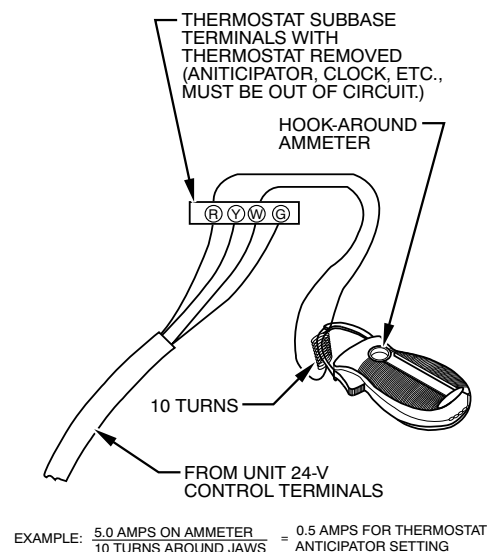

Fig. 64 – Amp. Draw Check with Ammeter
The high-speed or single-speed cooling airflow is adjusted by turning Setup switches SW2-1, SW2-2 and SW2-3 either ON or OFF. Select the required airflow from Table 5. Table is based upon 350 CFM per ton. For other CFM per ton Setup switch selections, see Fig. 36, Fig. 58 and Fig. 64.
- c. Connect an amp. meter as shown in Fig. 64 across the R and W subbase terminals or R and W wires at wall.
The electrical ground and polarity for 115-v wiring must be properly maintained. Refer to Fig. 31 for field wiring information and to Fig. 64 for furnace wiring information.